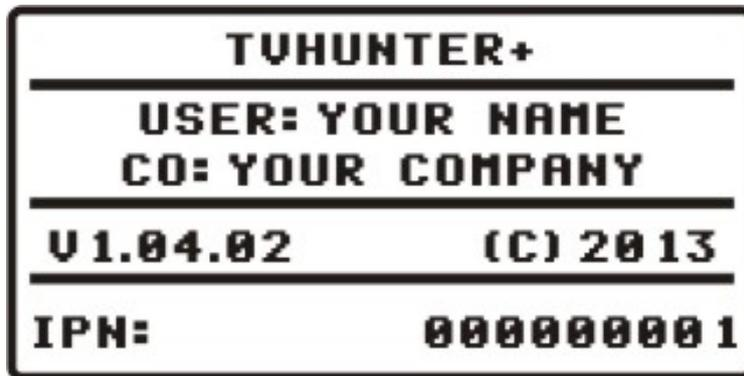

Figure 3. Name of the instrument (TVHUNTER+), user's name, company, firmware's version (v1.04.02), year and serial number.
- 5 Next, a screen will display the instrument's name, company and user names (editable by software) and the current version of firmware (Figure 3.).